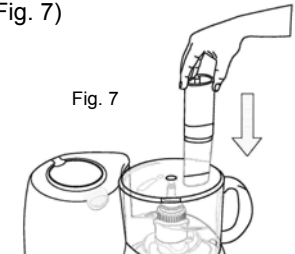

Fig. 7
- Keep hands and utensils away from the cutting blade while chopping food., to reduce the risk of severe injury to persons or damage to the food processor. A scraper may be used, but **ONLY** when the food processor is **NOT** running and has been unplugged. **Never** feed food by hand. Always use the food pusher. (Fig. 7)